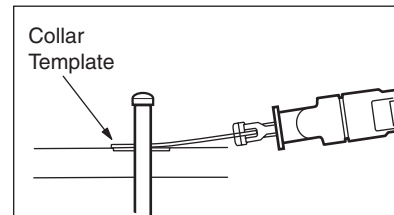

Figure 8. Riser Installation
- **For 2-1/2" collars:** Cut flush with the cement **Tip: Use the UltraFlex® Collar Template (part #1-17-7) (see Figure 8).**